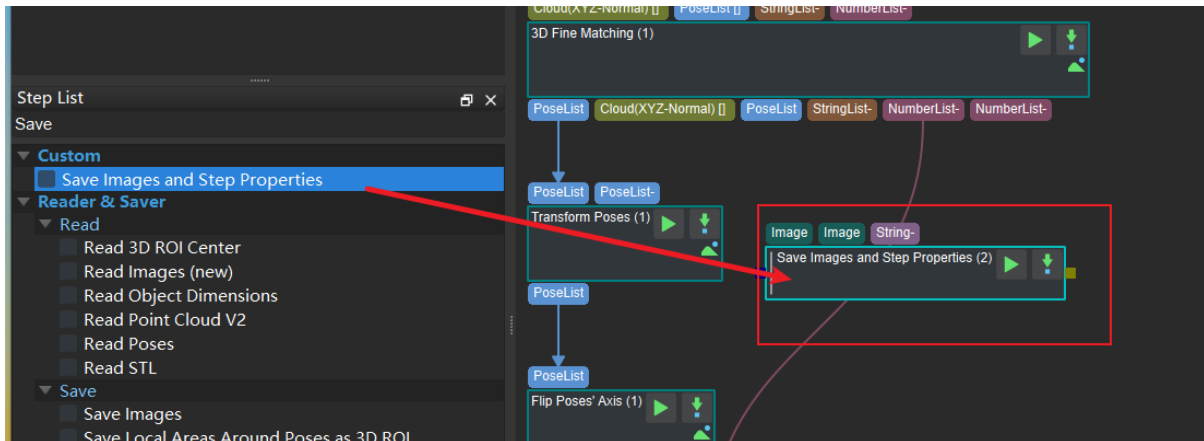

Figure 1. Add Step **Save Images and Step Properties** and Connect
1. After opening the project, add the step **Save Images and Step Properties** in the project, and connect the step (input port 1 is the depth map, port 2 is the 2D image) as shown in Figure 1.